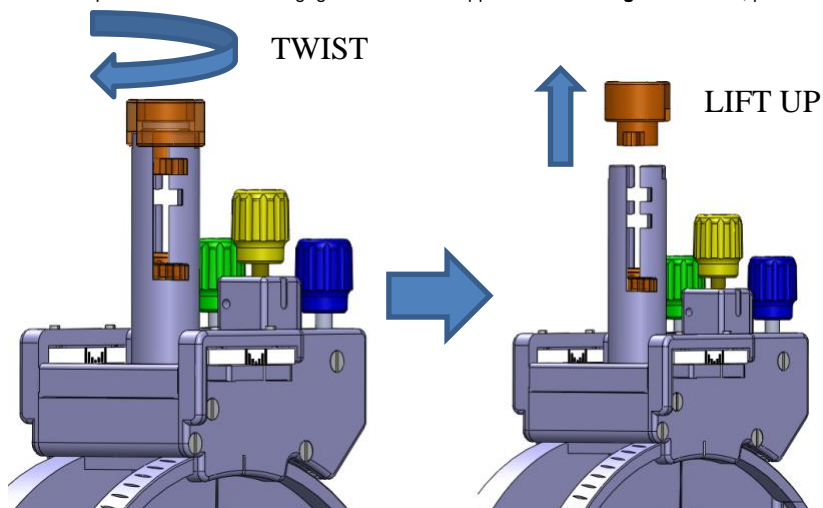

Figure 13: Removing the Targeting Cannula and TC Cap
3. Twist the Removable Cap so that the Tabs disengage from the TC Support Slots. **See Figure 13.** Then, pull the Cap away from the TC Support.